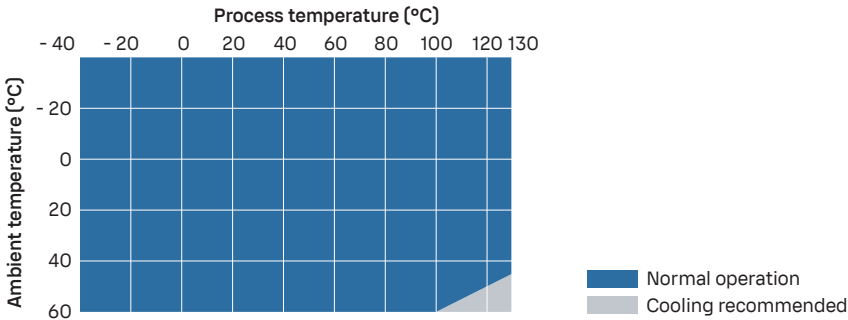

Figure 4 Process temperature and recommended cooling
- Use additional cooling according to Figure 4 \(page 13\). Notice that the values in the figure are indicative. Required cooling depends on the installation location and environment.